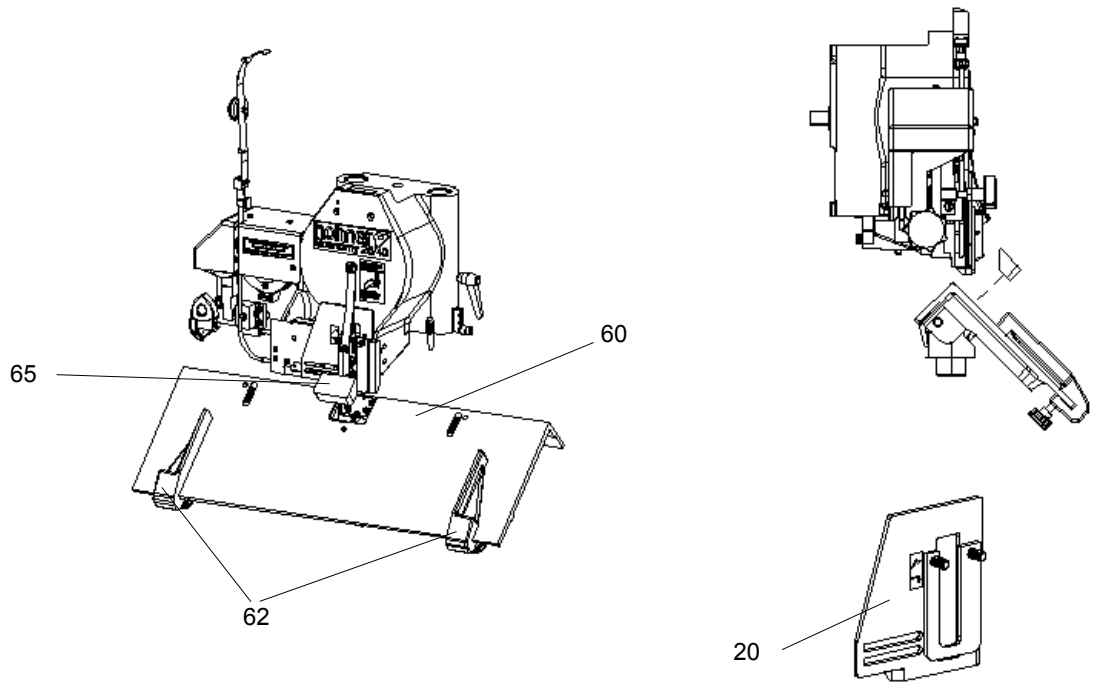

Fig. 4.11
- Fig. 4.11 -
- Mount the finger guard in the "**folder stitching**" position and note the markings (see - Fig. 4.11 -).